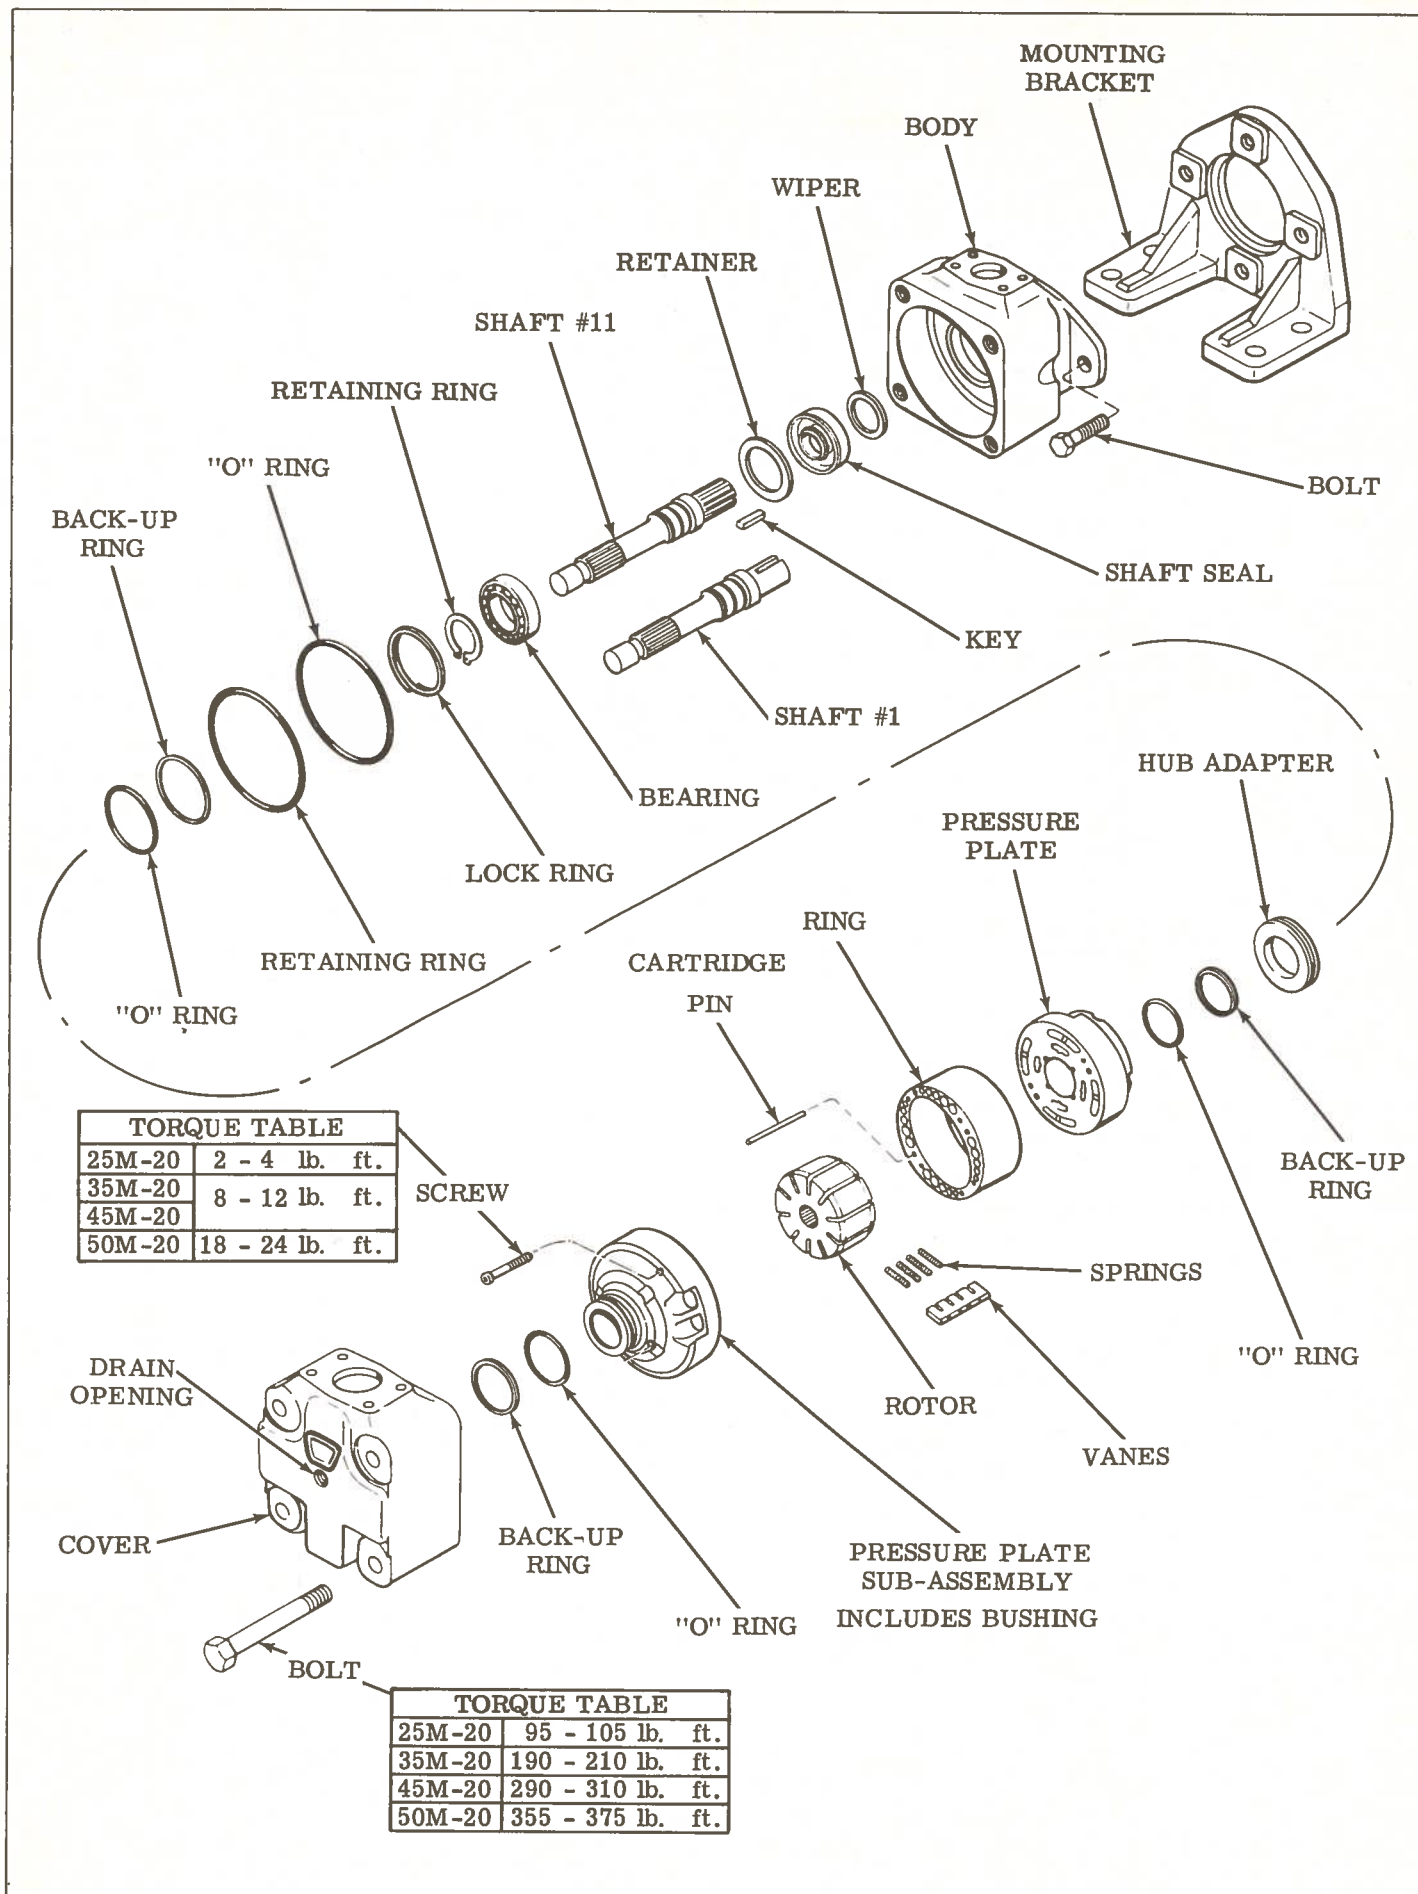

Figure 9
Figure 9 is an exploded view which shows the proper relationship of the parts for disassembly and assembly. Figure 1 can be referred to for the correct assembled relationship.
6. Cover End Pressure Plate - Install the cover end pressure plate against the rotor and ring. The porting in this plate will be 90 degrees from the other plate. Carefully install the two cap screws in the cartridge. Tighten the screws to values shown in fig. 9, page 11, being certain the peripheral edges of the ring and plates are flush. Tap with a plastic hammer if necessary to effect alignment.
9. Cover Assembly - Install the "O" Ring in the cover, greasing liberally. Carefully install the cover, being sure the locating pin engages the pin hole in the cover. To check engagement, turn the cover 30 degrees in both directions and be certain the cartridge moves with it. Install four cover bolts and tighten to torque requirement shown in figure 9.